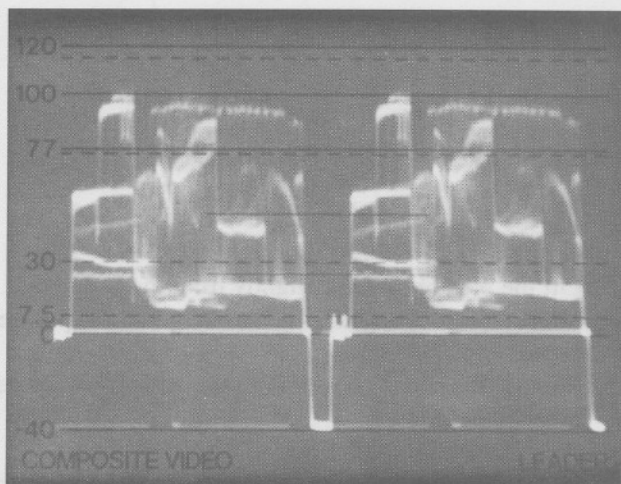

Figure 2-14. Use of the IRE filter on a color scene to set peak white level
1. Locate the white object on the waveform display. See Figure 2-14.
2. Set iris opening so that the peak white signal identified in Step 1 reaches 100 IRE. Note: For a clearer indication of peak luminance signal levels, depress the FILTER switch (5) to release it (button out). This inserts the IRE FILTER, and removes most of the subcarrier signal to make luminance values easier to see.